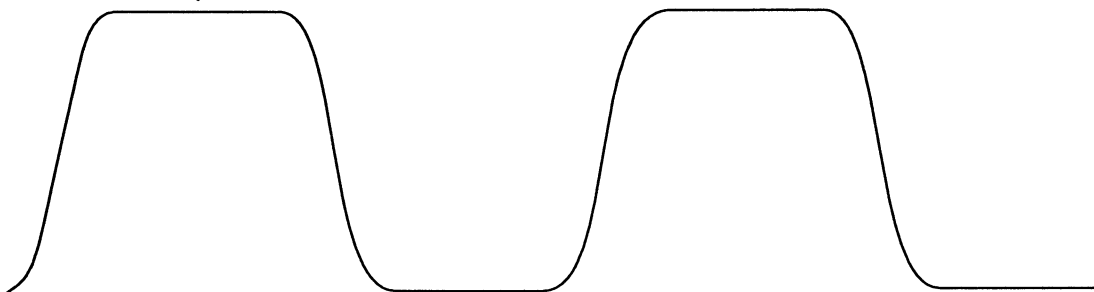

Figure 39. 1.5 kHz Filtered Square Wave
- Step 23. Observe a 1.5 kHz filtered square wave on the consolette's discriminator output. This pattern is shown in Figure 39. The frequency of the injected tone must be exactly 1.5 kHz. If it is not exactly 1.5 kHz, the FRED circuitry in the RDM can not properly recover clock from the signal. This situation results in "jitter" on the tone received by the consolette which effects deviation measurements.
Due to the narrow bandwidth of the console's receiver, the 1.5 kHz tone may be distorted from the illustration in Figure 39.